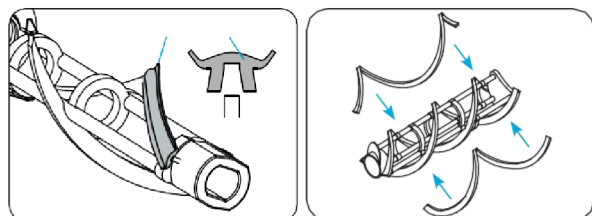

Figure 5-1
2. Assemble beater by attaching the scraper blades. (See Figure 5-1.)